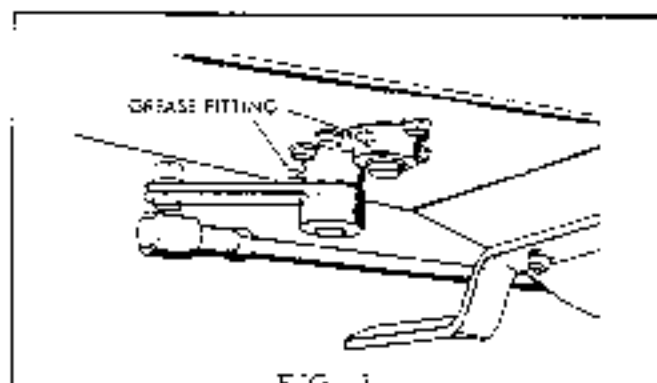

FIG. 3
- (2) Steering Mechanism - Fig. 3